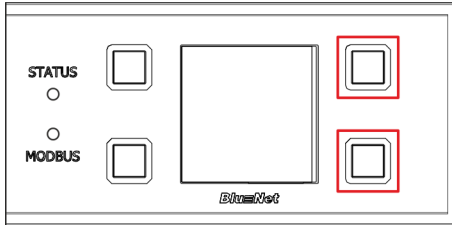

Fig. 81: Display with control buttons
1. ➔ Press and hold the two buttons to the right of the display (Fig. 81/red marking).
4. ➔ Release the two buttons next to the display (Fig. 81/red marking).